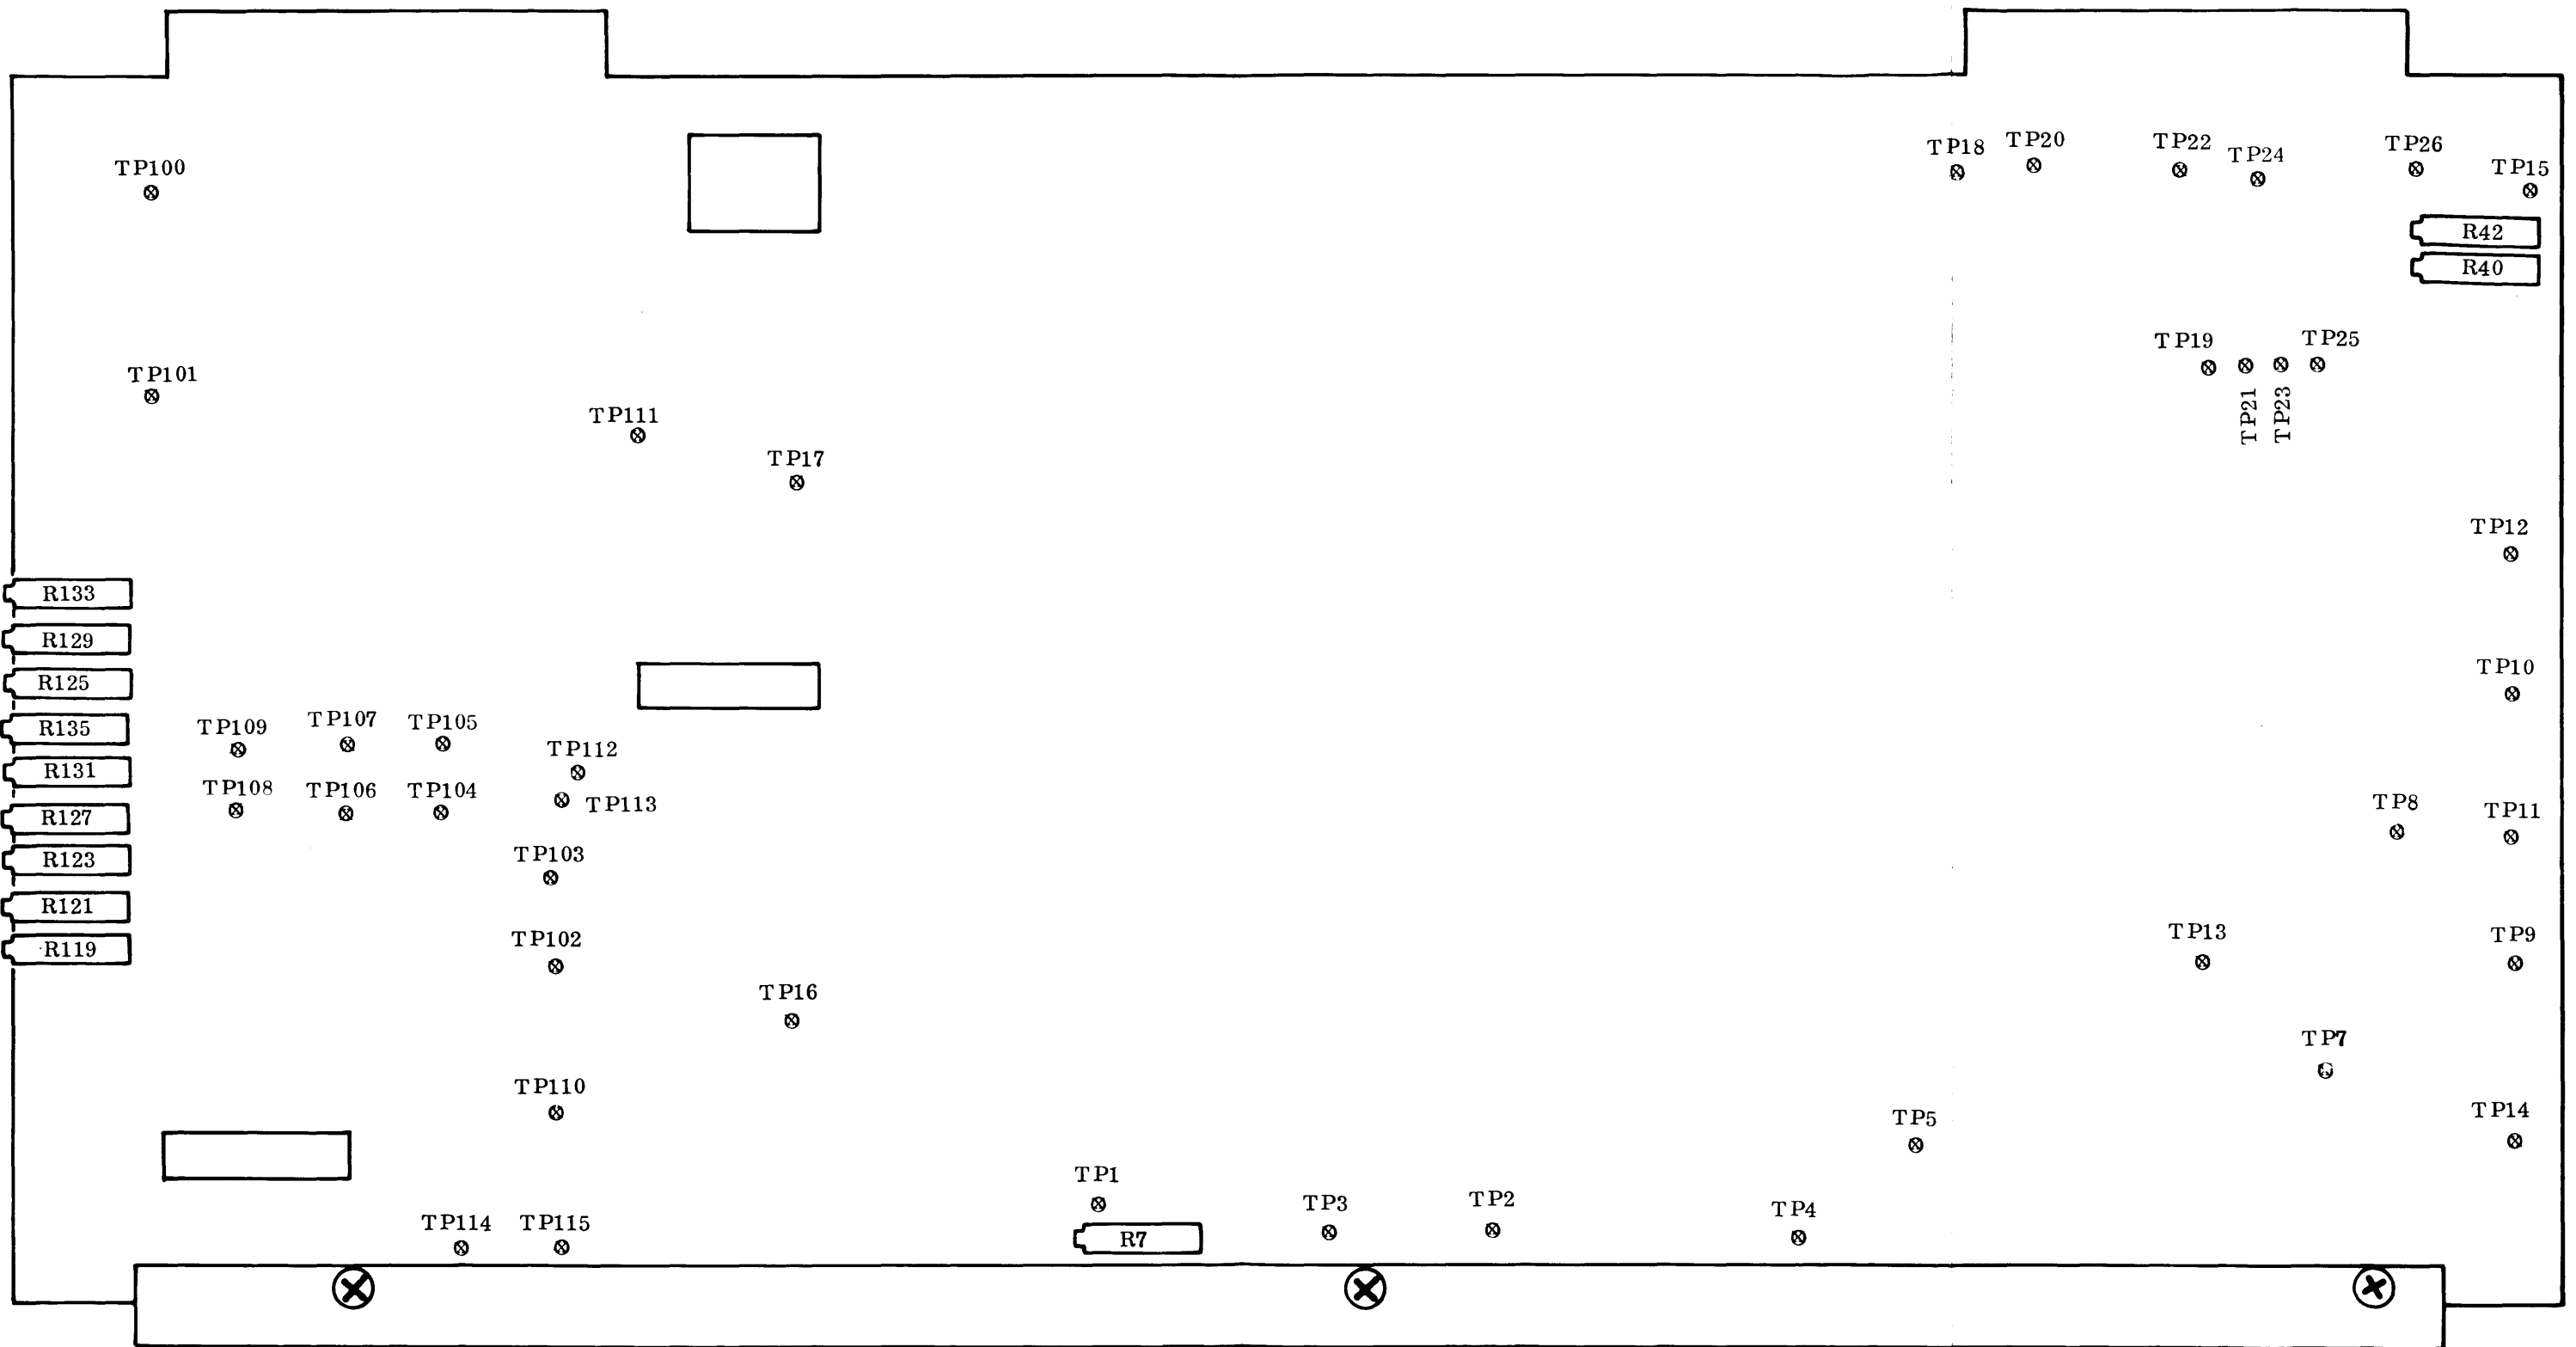
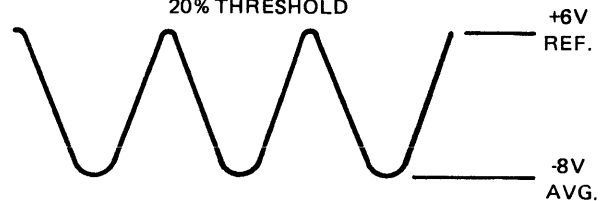

Figure 5-5. Read/Write Board Test Point Chart
Figure 5-9. NRZI Read Level Gain Adjustment Trace
- a. Load known-density master skew tape on re-~~recorder~~ ^{TP10}. Connect counter to TP23 (nine-track) or TP21 (seven-track) on read/write board. (See Figure 5-5 for test point locations.)
- b. Using dual-trace oscilloscope, trigger trace A on positive-going (0 to +5-volt) pulse at TP110 (track P write monostable) on read/write board (Figure 5-5).
- f. Monitor TP12 on read/write board (Figure 5-5) with trace A of oscilloscope and note data rate (period).
- (1) If possible, write repeated all-1's data record of fixed record length. This provides for most easily read level adjustment.
- (2) If all-1's record of fixed length cannot be written, write record consisting of random data, varying record length as convenient. This procedure is effective, but oscilloscope trace is not as easy to read as that of step 1.
- b. On read/write recorders, adjust read level on first read pass after writing. On all recorders, each channel is provided with gain adjustment potentiometer (R-7, Figure 5-5). Monitor TP4 of each channel and adjust corresponding potentiometer R-7 for negative-going peak level, as shown in Figure 5-9.
- b. Connect oscilloscope to TP7 and ground on read/write board (Figure 5-5).